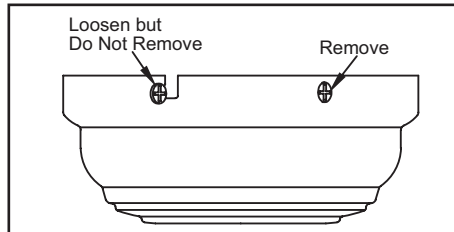

Figure 6
2. Remove the mounting plate from the canopy by loosening the four screws on the top of the canopy. Remove the two non-slotted screws and loosen the slotted screws. This will enable you to remove the mounting plate (Figure 6).
- Remove the mounting plate from the canopy by loosening the four screws on the top of the canopy. Remove the two non-slotted screws and loosen the slotted screws. This will enable you to remove the mounting plate (Figure 6).